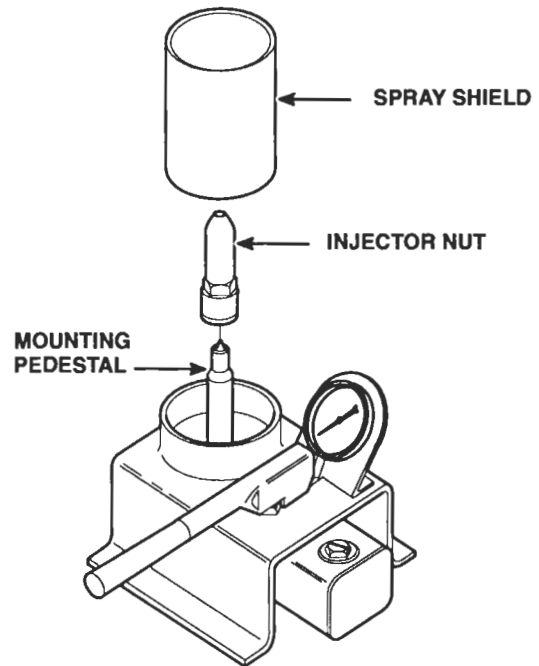

Figure 6. Tester J 22640-A with Shield Installed
3. Place the shield on the tester and operate the pump handle until the needle valve has opened several times to purge air from the system (Figure 6.)